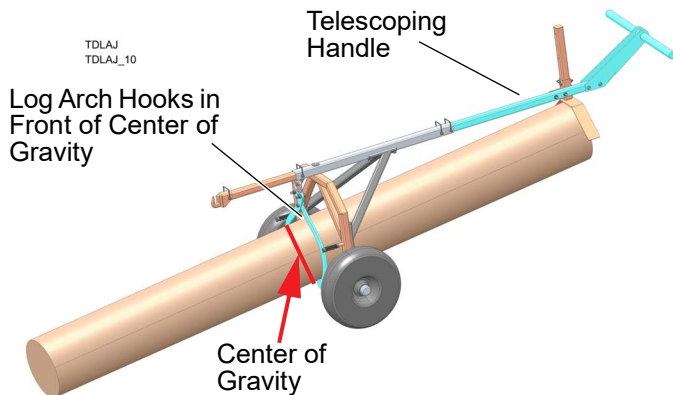

FIG. 4-2
**NOTE:** The Log Arch hooks should be slightly in front of the log's center of gravity. This will allow the end of the log nearest the Log Arch handle to rest against the Telescoping Cradle. See FIG. 4-2.
3. Adjust Telescoping Handle so it rests near end of log, as shown in FIG. 4-2.
4. Place Hooks around log, as shown in FIG. 4-2.